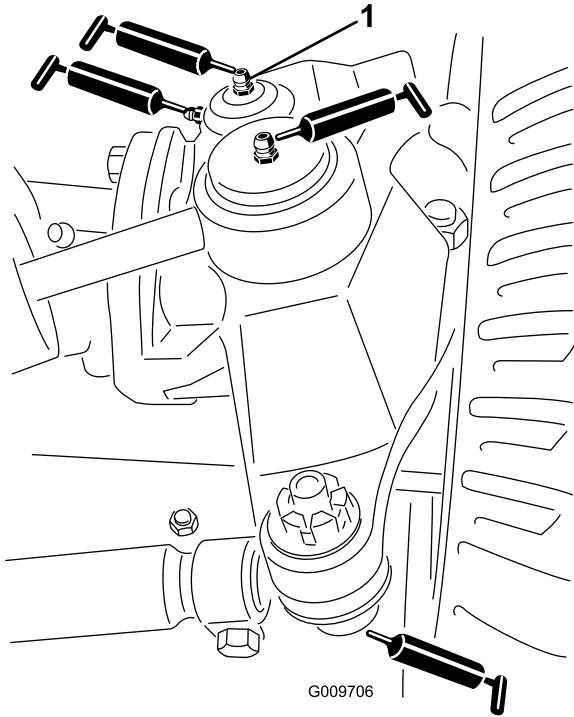

Figure 45
- Steering cylinder ball joints (2) (Figure 45)
- Tie rod ball joints (2) (Figure 45)
- King pin bushings (2) (Figure 45). **The top fitting on the king pin should only be lubricated annually (2 pumps).**